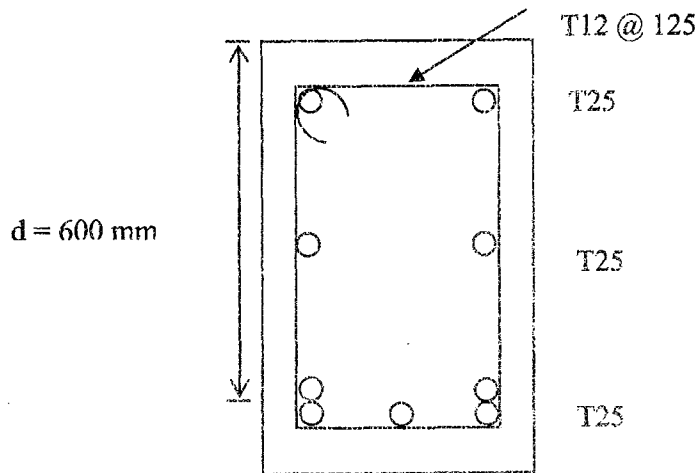
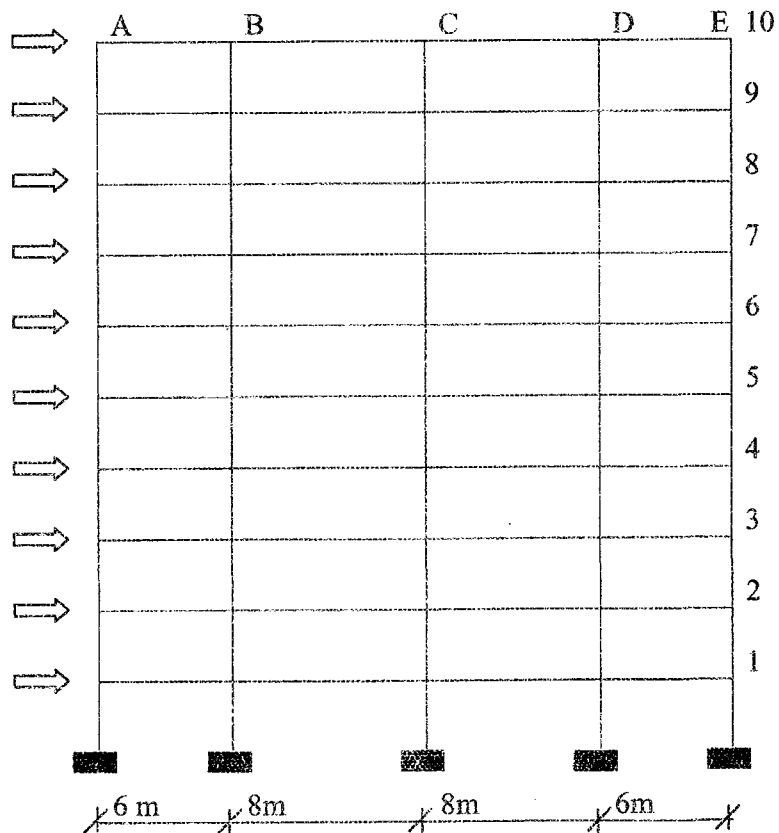

Figure 2: Rectangular cross section beam (300 mm x 700 mm)
Figure 3
4. (a) Torsional reinforcement is to be designed for a simply supported beam with an ultimate torsional moment, $T_{sd} = 65 \text{ kNm}$ and shear force, $V_{sd} = 250 \text{ kN}$. The beam cross-section is shown in Figure 2. Assume steel grade $f_{y1k} = 410 \text{ N/mm}^2$, the characteristic strength of concrete is $f_{ck} = 30 \text{ N/mm}^2$ and the mild steel links is $f_{y2k} = 250 \text{ N/mm}^2$. The span of the simply supported beam is 6.5m. (15 marks)
- (i) Based on the calculated ultimate torsional moment (T_{sd}), check the maximum torsional moment that can be carried by the section given in Figure 2.
5. (a) Briefly describe **FIVE (5)** factors influencing the wind load calculation in codes of practice. (5 marks)
- (b) A ten-storey rigid frame building as shown in Figure 3 is situated at Johor Baharu in the terrain category 3 with a basic wind speed of 33.5 m/s. Calculate the value of the design wind force from first floor to roof level of the frame as shown in Figure 3 in accordance with MS1553:2002. The typical storey height is 3.0 m, to give a total height of 30m. The frames are spaced at 6m. Indicate all assumed values used in the calculations. (12 marks)